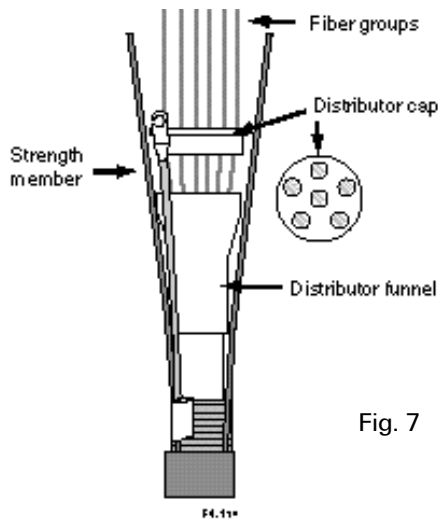

Fig. 7
9. Place one fiber group in each hole of the distributor cap. (Fig. 7)